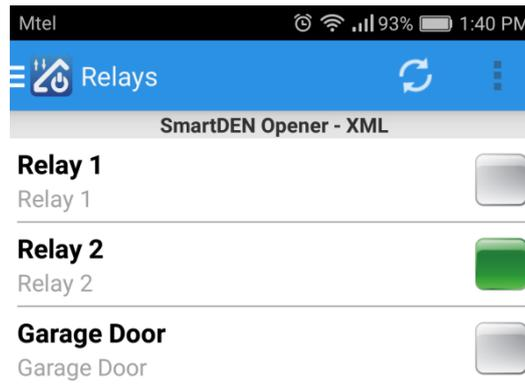

Figure 6.30. Relays tab
7. Control tab will be shown with states of the two relays and Main Controlled Device. In our example on **Figure 6.30** Relay 1 is OFF, Relay 2 is ON and Main Controlled Device ("Garage Door" in our example) is **CLOSED** (or **STOPPED**). By clicking on status buttons the state of the relay will be toggled.